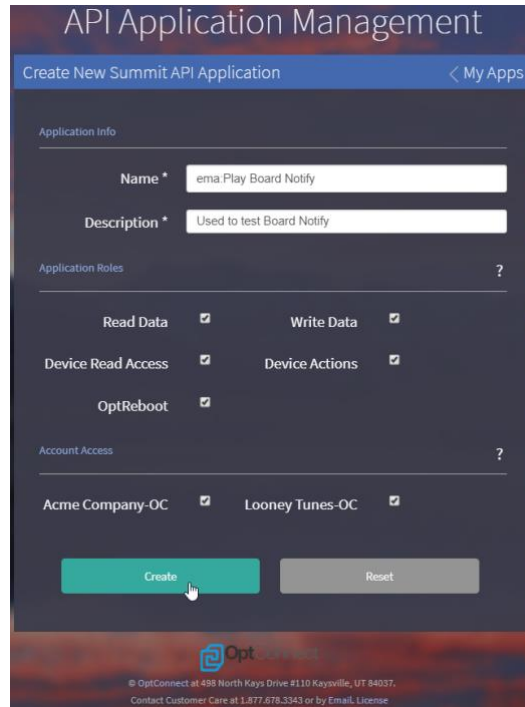

Figure 31
3. The “Create New Summit API Application” page will load. Enter a Name and Description for this API application. Select the appropriate Application Roles and Account Access settings for this API Application, then click “Create” as shown in *Figure 31*.